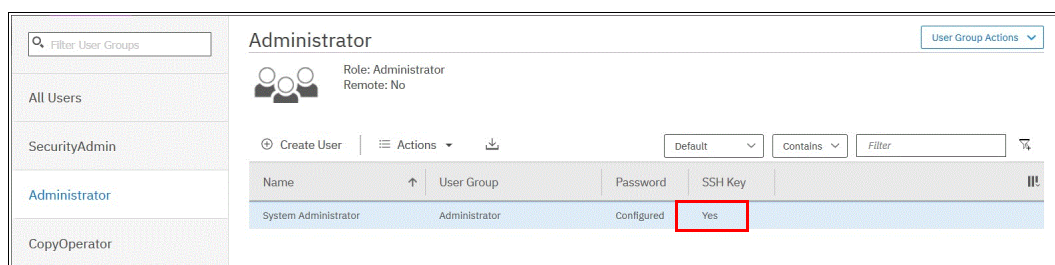

Figure B-7 Key successfully imported
5. Check in the GUI to ensure that the SSH key is imported successfully (see Figure B-7).